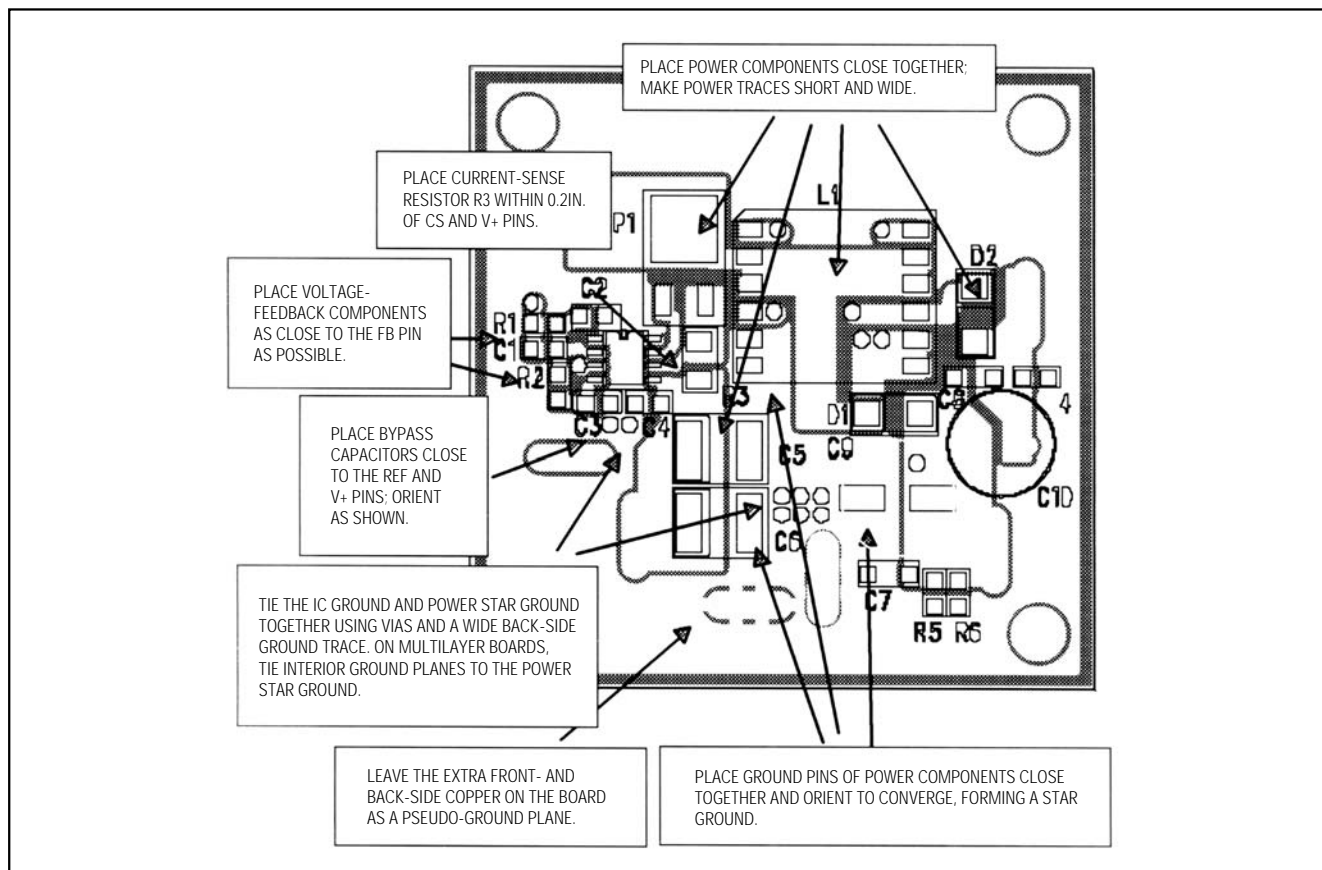

Figure 9. Key Layout Features
- 4) Route transformer L1's ground pins (C5, C6, and C10) to a common ground point in a star ground configuration using top-side copper fill as a pseudo-ground plane. On multilayer boards, use the star ground as described, and connect it to the inner ground plane using vias. Build up separate star grounds for the power components and controller IC (Figure 9), and then couple them together through the back side of the board using several vias.